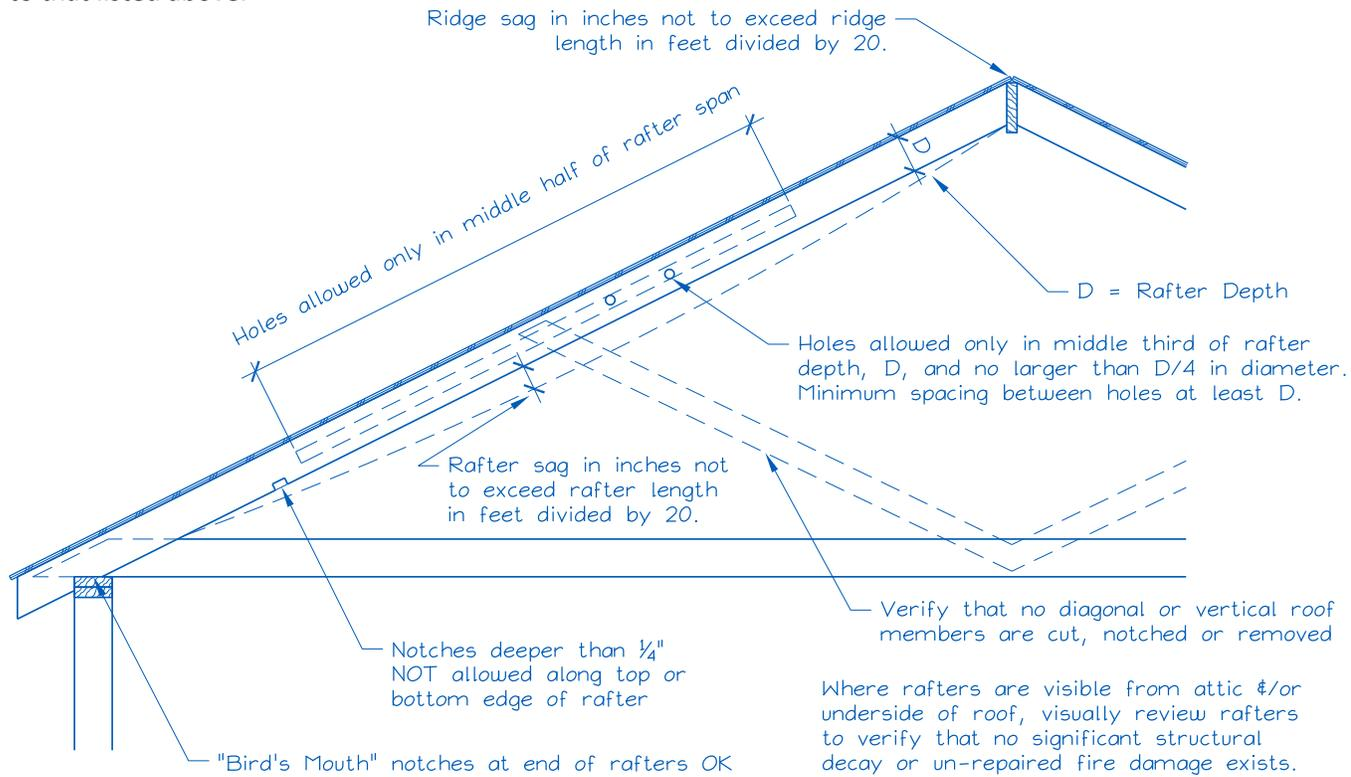

Figure 1. Roof Visual Structural Review (Contractor's Site Audit) of Existing Conditions.
- 2) Does the roof structure *the roof structure complies with structural building code requirements*, without signs of alterations or significant structural deterioration or sagging, as illustrated in Figure 1? Y N